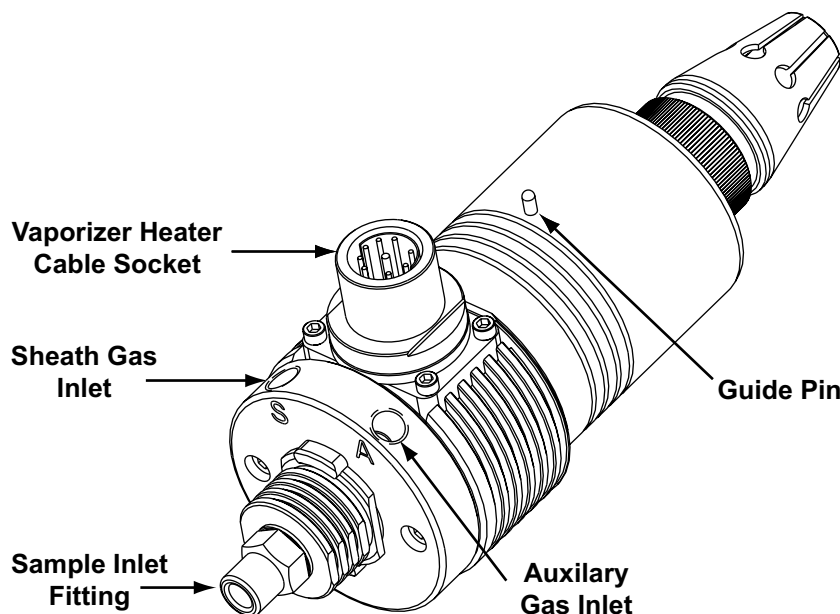

Figure 6-8. APCI probe
4. Insert the APCI probe into the port in the ion source housing, align the guide pin on the probe body at a 45 degree angle from the ESI interlock block. See Figure 6-8.